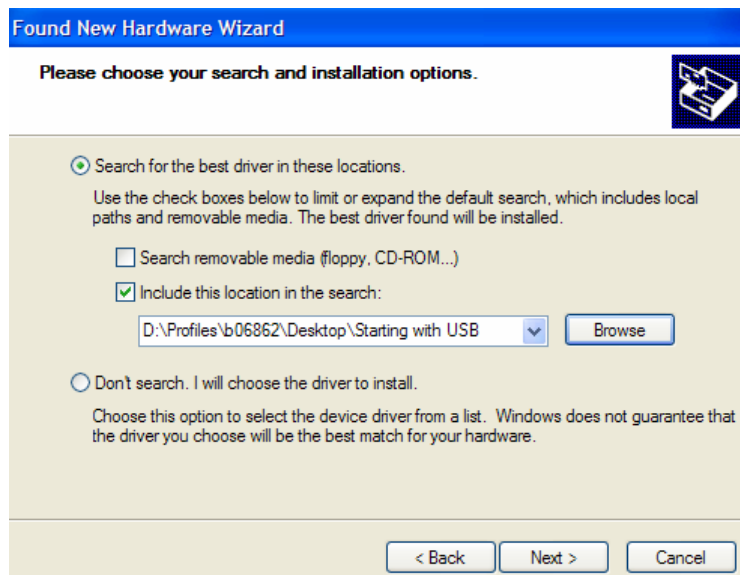

Figure 4. Browsing the .inf and .sys Files
7. Select the “Include this location in the search” option. Browse the folder where the .inf and .sys files are located, as shown in Figure 4. Click next.